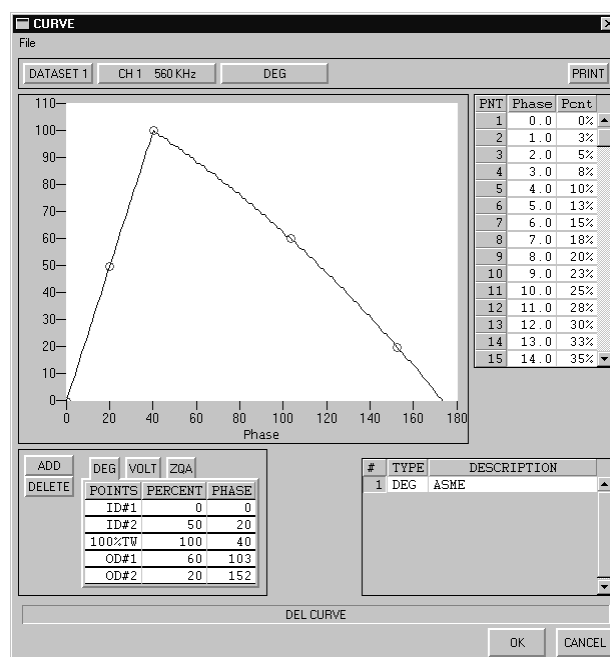

Figure 3-104. Curve Dialog - Typical DEG Curve (ASME)
10. Repeat the process until all calibration points are added. Figure 3-104 shows a completed **DEG** curve for a typical ASME standard using the 100, 60, and 20% flaws;
In Figure 3-104, note that the unique name *ASME* has been entered in the **DESCRIPTION** field for this calibration curve. This is a useful feature when more than one curve is created for a given channel. When this curve is in use, this name will appear in the status bar on the **Main Analysis** screen.